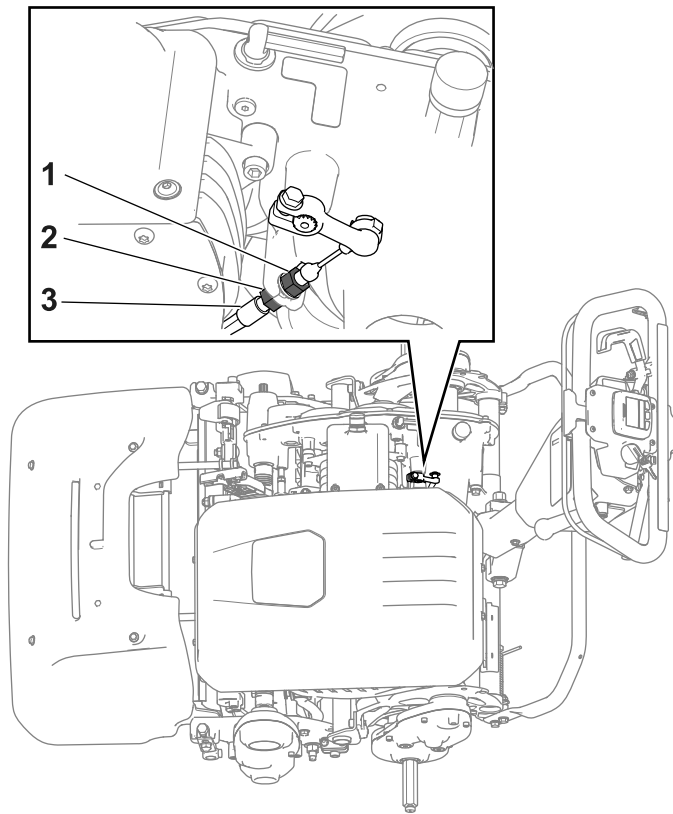

Figure 25
- To increase the cable tension, loosen the front-cable jam nut and tighten the rear jam nut (Figure 25). Repeat step 2 and adjust the tension if necessary.
- To decrease the cable tension, loosen the rear jam nut and tighten the front-cable jam nut (Figure 25). Repeat step 2 and adjust the tension if necessary.